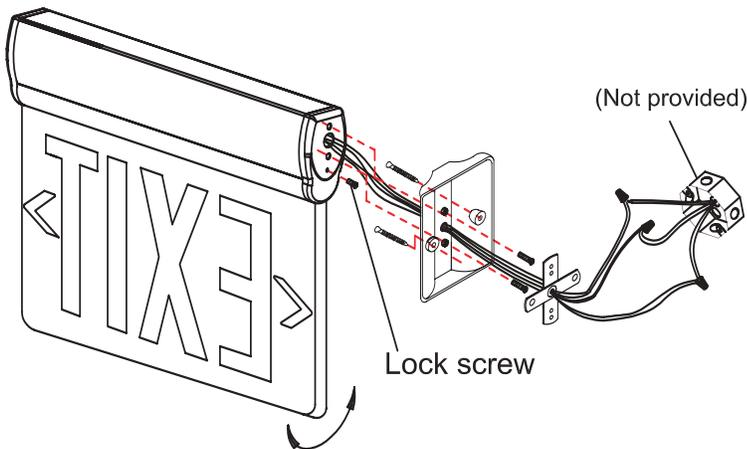

Fig.4 End Mounting
4. Assemble canopy on aluminum housing with (2) 10\*-24 (UNC) screws and make proper lead connections. See "Electrical Connections" below.
5. Using (2) M4\*40 screws supplied tighten canopy to mounting plate.
6. The unit may be installed on any surface and rotate EXIT panel in any angle from 0 degrees to 180 degrees, lock EXIT panel by mounting lock screw. (See Fig. 4)
Make the proper supply lead connections. If using 120VAC, connect the black and white leads to the building utility. If using 277VAC, connect the orange and white leads to the building utility. Cap off unused wires. In all cases, use standard wire nuts in connection to leads. (See Fig. 4)